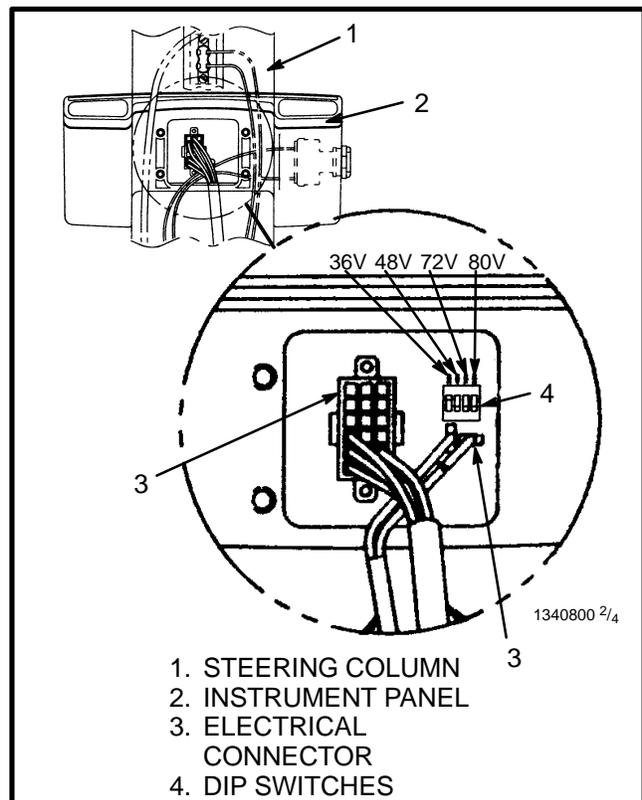

FIGURE 6 – DIP SWITCHES
4. Install the replacement panel assembly to the cover of the steering column and tighten the screws. Install the connectors and the key switch wires. On the standard panel, set the DIP switches near the connector for the panel to the voltage of the lift truck. See FIGURE 6. Move the DIP switch for the correct voltage to the up position and all others to the down position. Install the column cover on the steering column.